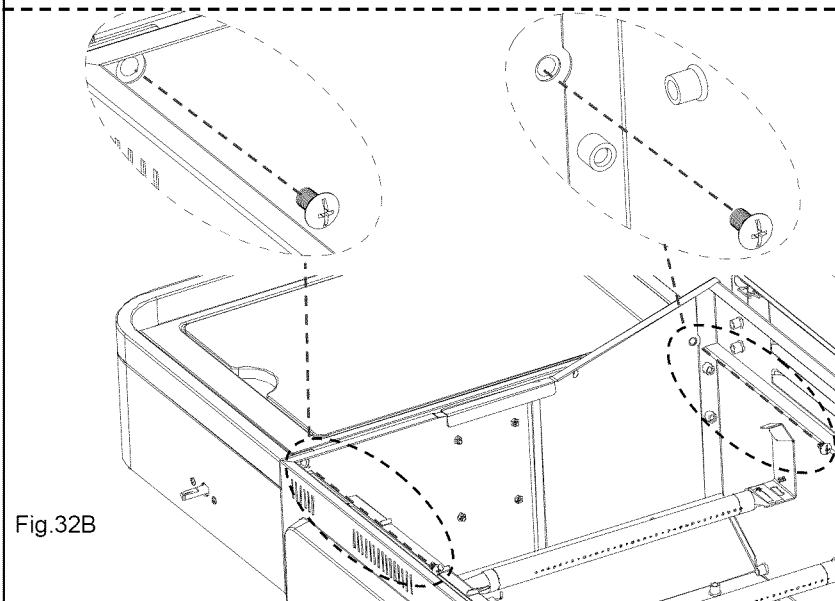

Fig.32B
Hang the Side Burner Shelf on the bolt and push the Side Burner Shelf down. Attach the upper part of the Side Burner Shelf to the cabinet using (2) M6x12 bolts from INSIDE of the cabinet as shown as Fig. 32B.